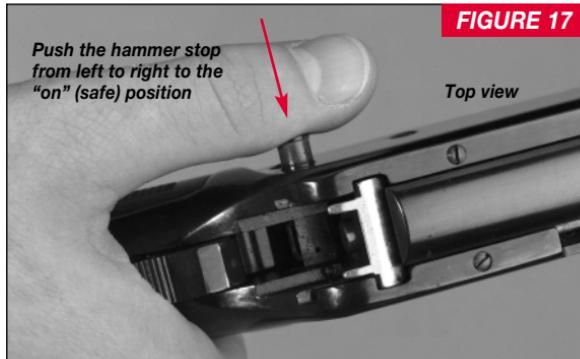

FIGURE 17
3. WHEN THROUGH FIRING ALWAYS IMMEDIATELY PLACE THE MANUAL HAMMER STOP IN THE “ON” POSITION (FIGURE 17), AND THE HAMMER IN THE SAFETY (REBOUND) POSITION (REFER BACK TO FIGURE 6).